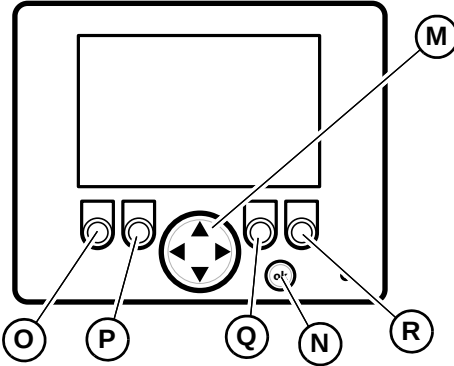

Figure 20 – Information Center Electronic Display
Quad Gauge Display Displays four different status parameters simultaneously. To change the displayed parameters, press and hold the ok button (N, Figure 20) until orange bar (T) displays. Press the left/right side of navigation rocker button (M, Figure 20) to select the parameter and press the top/bottom of navigation rocker button to change the selected parameter. Press the ok button again to dismiss orange bar (T).
Single Gauge Display Displays single real time operating parameters. Switch between parameters using the navigation button (M, Figure 20). Used for various functions, depending upon screen and context.
All Secondary Screens	Secondary screens are accessed by holding down the ok button (N, Figure 20) for 10 seconds while the Dual Gauge Display screen is displayed. Press the left/right side of navigation rocker button (M, Figure 20) to switch between secondary screens.
UNITS SAE METRIC 	Units Screen Press the top/bottom of navigation rocker button (M, Figure 20) to switch between SAE or metric units for values displayed in screens.
LANGUAGE ENGLISH SPANISH 	Language Screen The press the top/bottom of navigation rocker button (M, Figure 20) to switch between English or Spanish language for values displayed in screens.
0 of 0  DM1 SPN: 0 FMI: 0 OCI: 0 	DM1 Screen Displays engine, drive system, control, and safety system error code message information. Number of available messages is displayed at the top left of the screen (T). Use buttons (P and Q, Figure 20) to scroll through the messages. See "Engine Diagnostic Trouble Codes (DTC)" on page 171 for specific error code details.
0 of 0  DM2 SPN: 0 FMI: 0 OCI: 0 	DM2 Screen Continuation of error code message display along with DM1 Screen. Number of available messages is displayed at the top left of the screen (T). Use buttons (P and Q, Figure 20) to scroll through the messages. See "Engine Diagnostic Trouble Codes (DTC)" on page 171 for specific error code details.